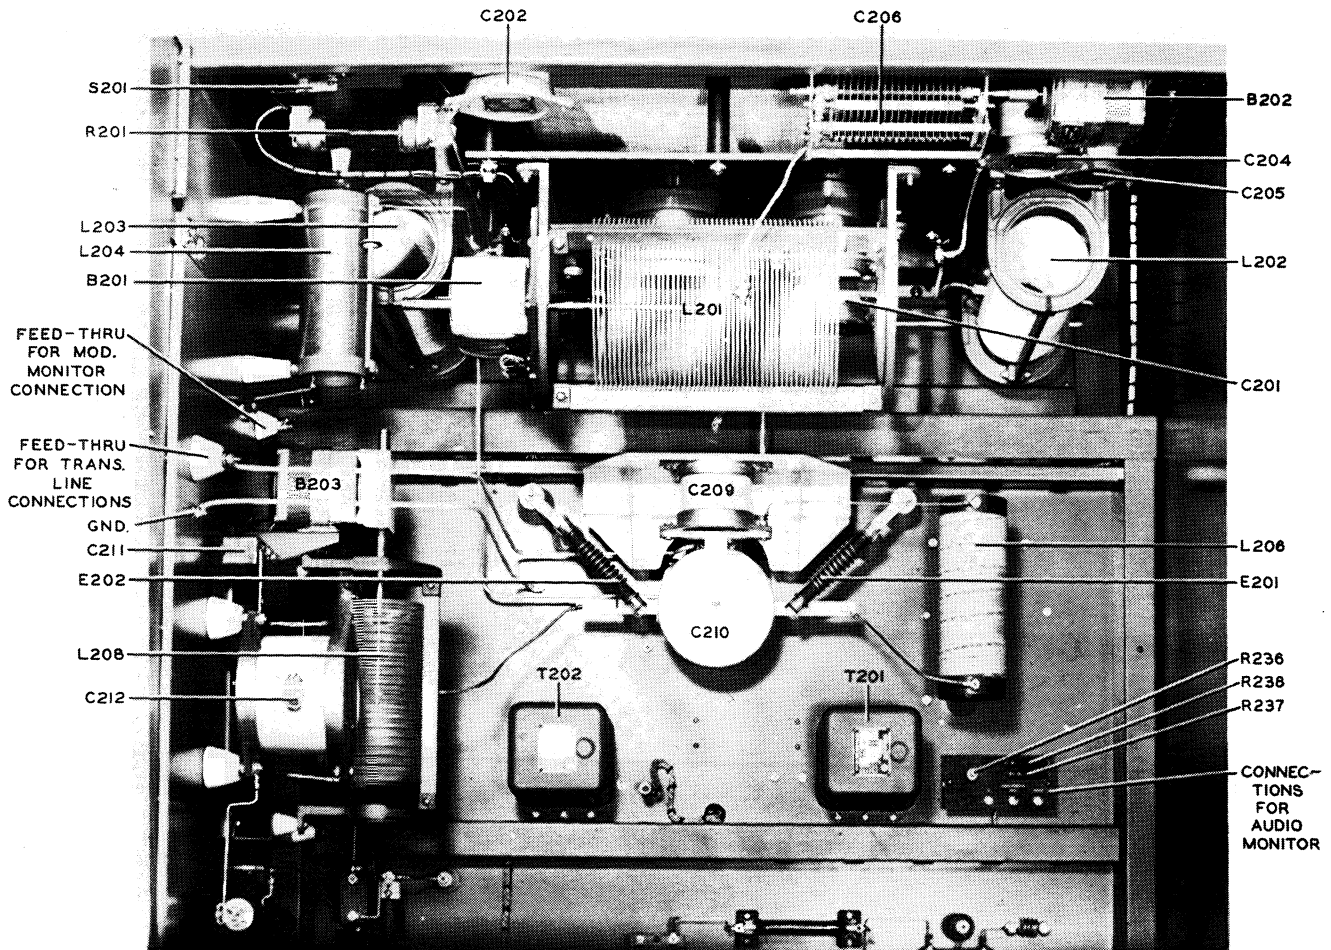
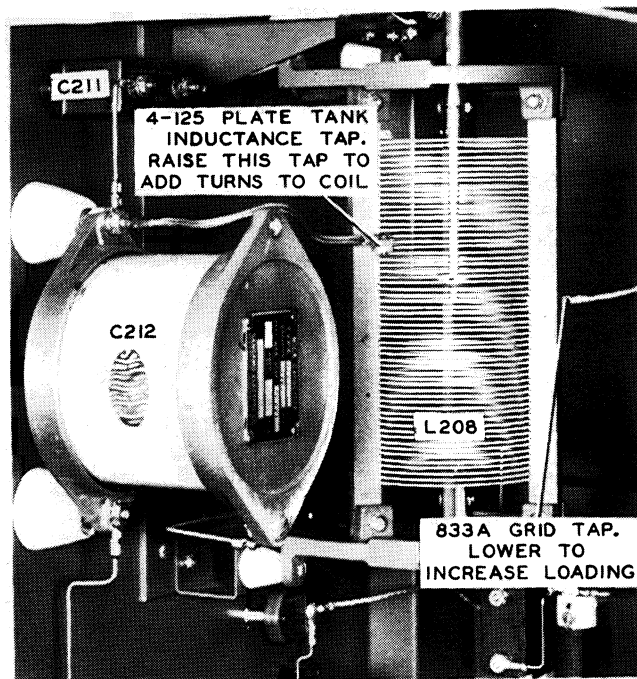

Figure 2-6 Transmission Line and Monitor Connections
Figure 2-12 Intermediate Amplifier Plate Tank Inductor
(1) Open switch S201, figure 2-6, located in the plate lead of the power amplifier,
(2) Remove the power amplifier grid tap from L208. (By removing this tap a better indication of resonance may be obtained.)
(3) Rotate rheostats R229 and R230 to the full counterclockwise position for a temporary bias adjustment of the modulator tubes. The intermediate amplifier plate circuit may now be tuned,
(4) Close the HIGH VOLTAGE circuit breaker,
(5) Rotate the TUNE-METER SWITCH to the 4-125A TUNE position. The POWER switch should remain in the TUNE position.
(6) Pull the PLATE start-stop control.
(7) Operate the TUNE control. Tune for minimum cathode current of the intermediate amplifier as indicated by a slight dip on meter M303. If the point of resonance cannot be found it will be necessary to adjust the tap on inductor L208. Refer to figure 2-12. Change the tap in steps of not more than 2 turns at a time until resonance has been established.
(8) Rotate the POWER switch to the LOW position to complete the tuning.